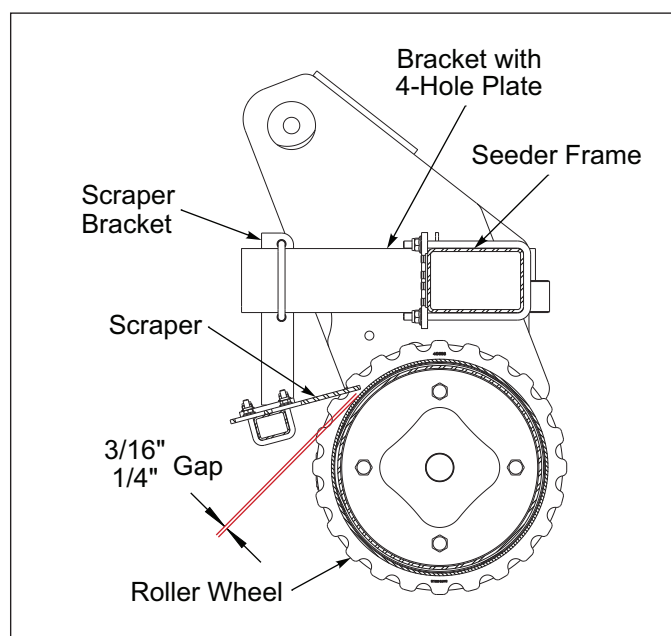

Figure 5-13: Scraper Dimensions
4. Adjust the Scrapers as needed to achieve a 3/16" to 1/4" gap between the Scrapers and Roller Wheels. **See Figure 5-13.** Scrapers should be close enough to the Roller Wheels to be functional but without interference.